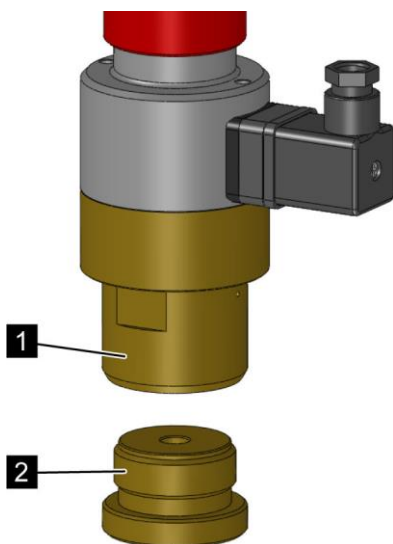

Fig. 91: Resetting the release pin
2. ➤ Screw the screw reset tool (Fig. 91/2) onto the electrical release device (Fig. 91/1) by hand until the stop.
3. ➤ Unscrew the screw reset tool (Fig. 91/2) and remove it.